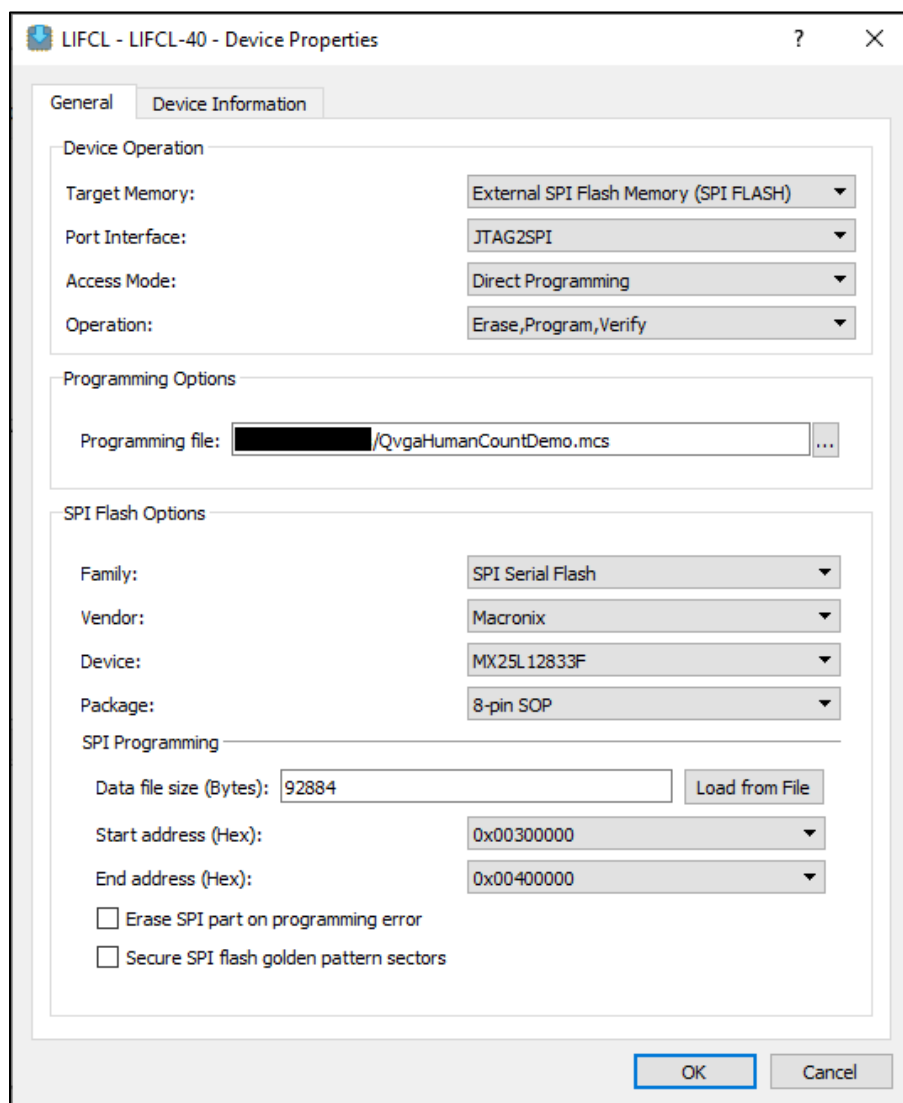

Figure 4.8. Radiant Programmer – Selecting Device Properties Options for CrossLink-NX Flashing
- c. For **SPI Flash Options**, make the selections as shown in Figure 4.8.